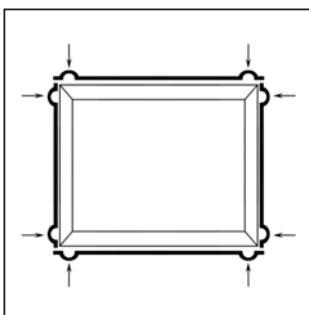
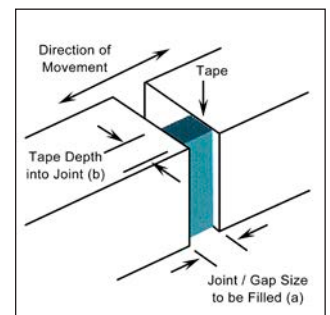

Fig. 1
Fig. 4
- If installing tape into a construction joint with a cross-joint, it may initially be applied either horizontally or vertically (from bottom to top to avoid stretching of the tape). However, when applying to a door or window frame the horizontal seals must be applied before the vertical ones (Fig. 1). Tape must be applied with the adhesive side to the frame when working with fenestration but may be applied in any order when working with construction joints. In both cases do not stretch the tape. When working in damp or cold conditions, if the tape is not adhering to the joint face, a suitable wedge should be used to hold the tape in position until it is expanded. Ensure the tape is recessed by a minimum of 2 mm into the joint. (Fig. 4).